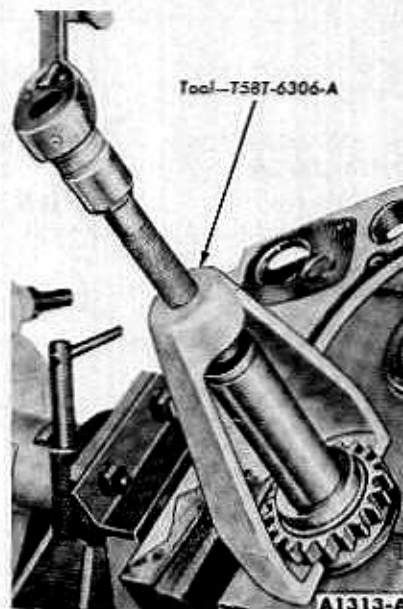

FIG. 15—Crankshaft Sprocket Removal
3. Remove the crankshaft sprocket (Fig. 15). Remove the Woodruff key.